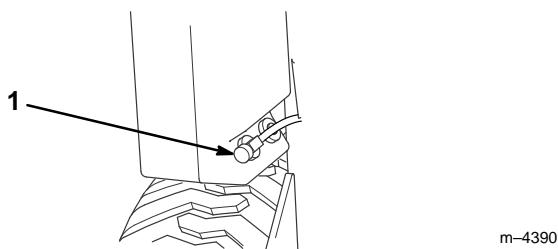

Figure 29
2. Shut off the fuel valve on the bottom of the fuel tank (Fig. 29).
8. Open the fuel valve on the bottom of the fuel tank (Fig. 29).
- Shut off the fuel valve on the bottom of the fuel tank (Fig. 29).